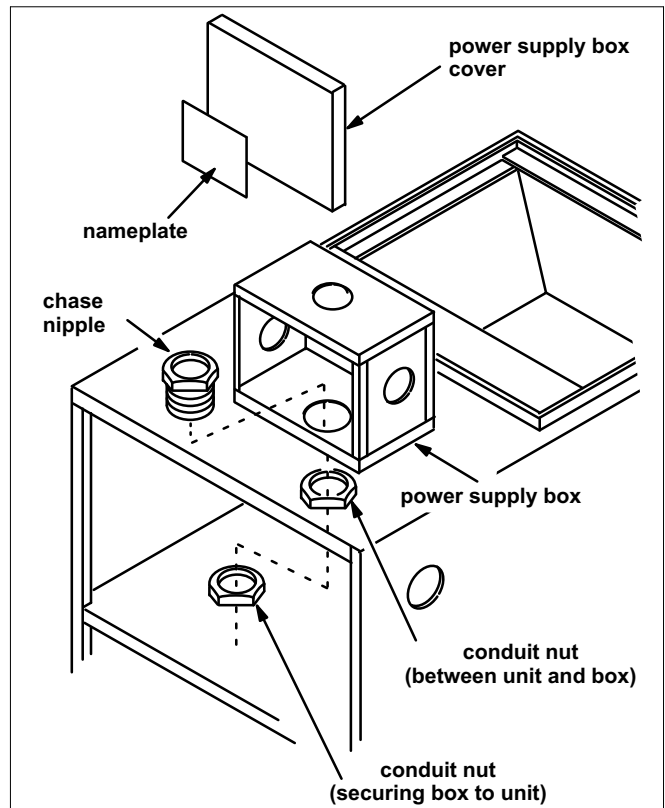

Figure 1. Single Point Power Supply Junction Box Installation
- 3 - Insert chase nipple through hole in cabinet and use the second conduit nut to secure it to the unit. See figure 1.
- 4 - **Air Handler single-source applications --** Place provided air handler single-source nameplate over the existing sticker on the box cover. See figure 1.